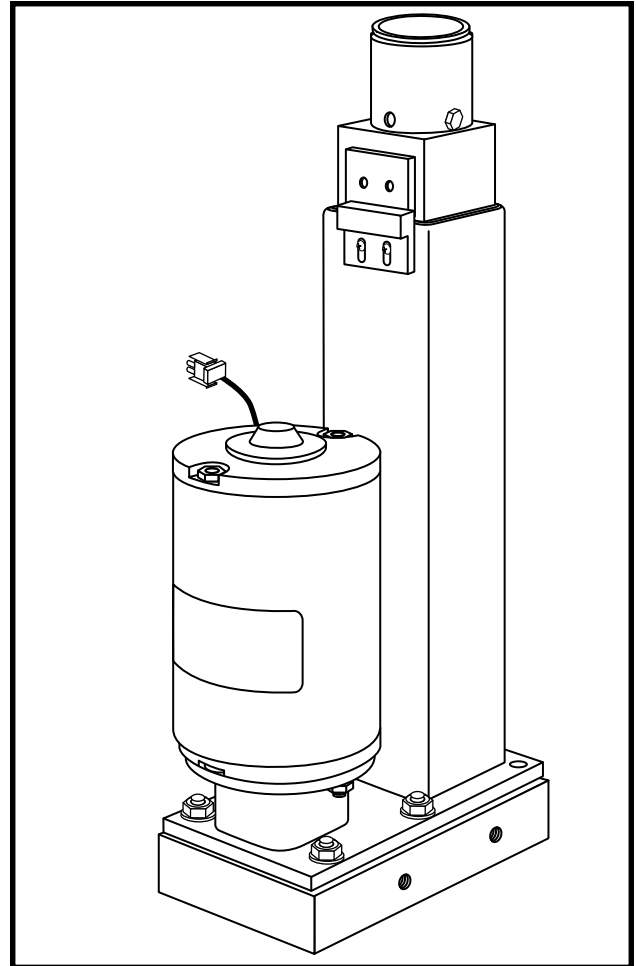

Figure 15. Power Elevating Seat Actuator
1. Align the seat shaft to the hole in the actuator. See figure 15.